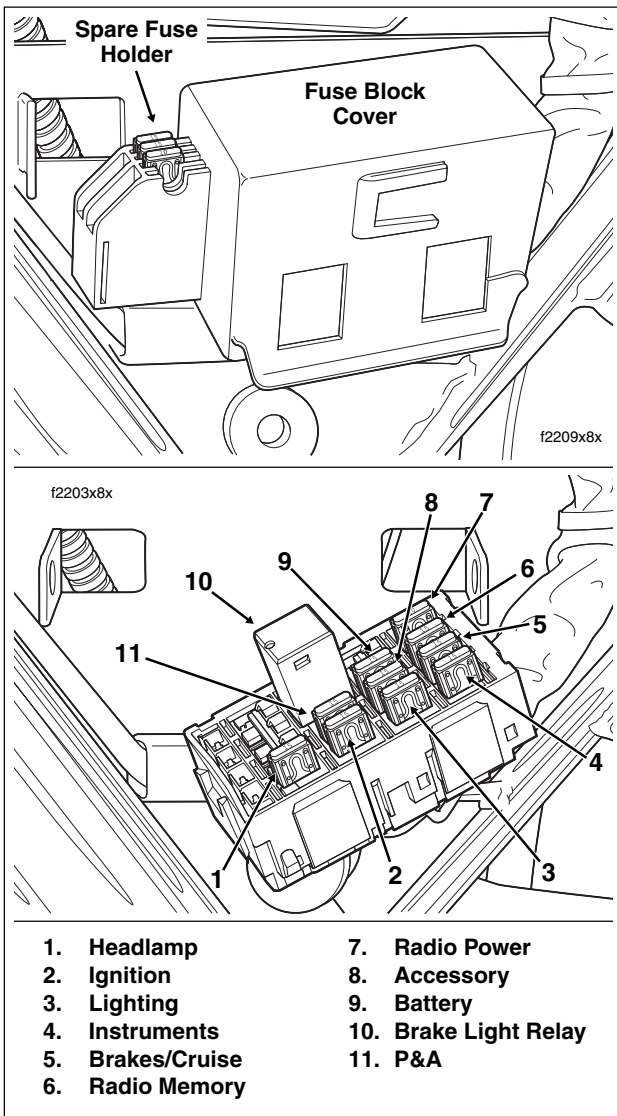

Figure 8-4. Fuse Block (FLTR, FLHTC/U)
- Remove the fuse block cover. Raise lipped side slightly to disengage slots from tabs on fuse block. See upper frame of Figure 8-4.
- Remove system fuse/relay from fuse block. Replace fuse if the element is burned or broken. Automotive type ATO fuses are used. See lower frame of Figure 8-4.
- Install system fuse/relay in fuse block. See lower frame of Figure 8-4.
- Slide cover over fuse block until slots fully engage tabs on block. See upper frame of Figure 8-4.